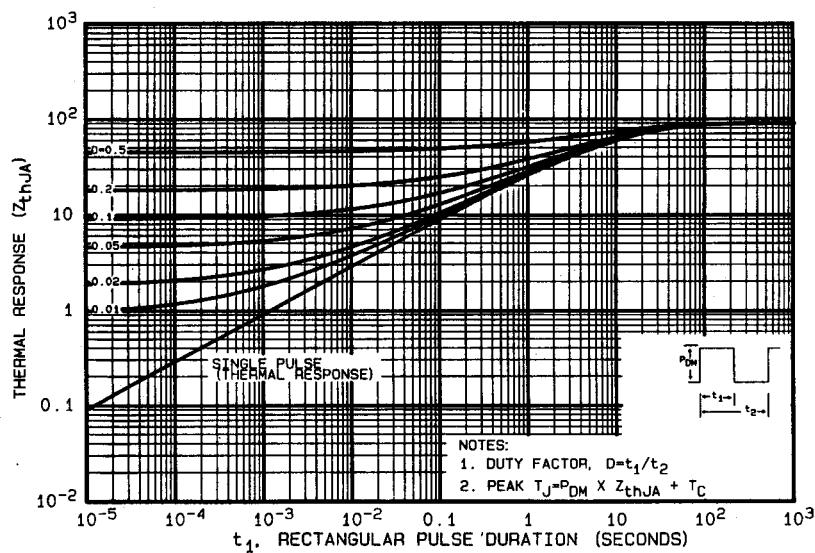

Fig. 9 — Maximum Effective Transient Thermal Impedance, Junction-to-Ambient Vs. Pulse Duration
① Repetitive Rating: Pulse width limited by maximum junction temperature (see figure 9)